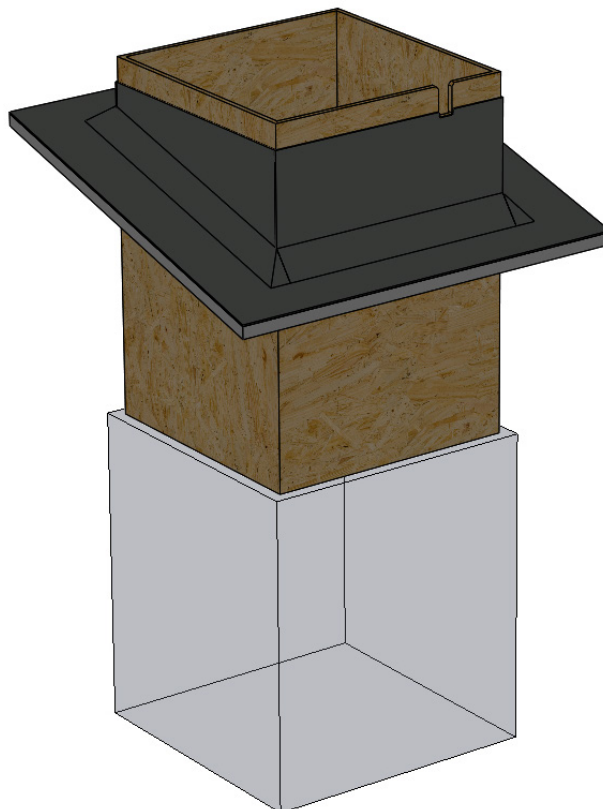

Figure 33 – Upstand dimension details.
2. This will create an internal opening dimension of 792mm x 792mm – *see figure 33*.